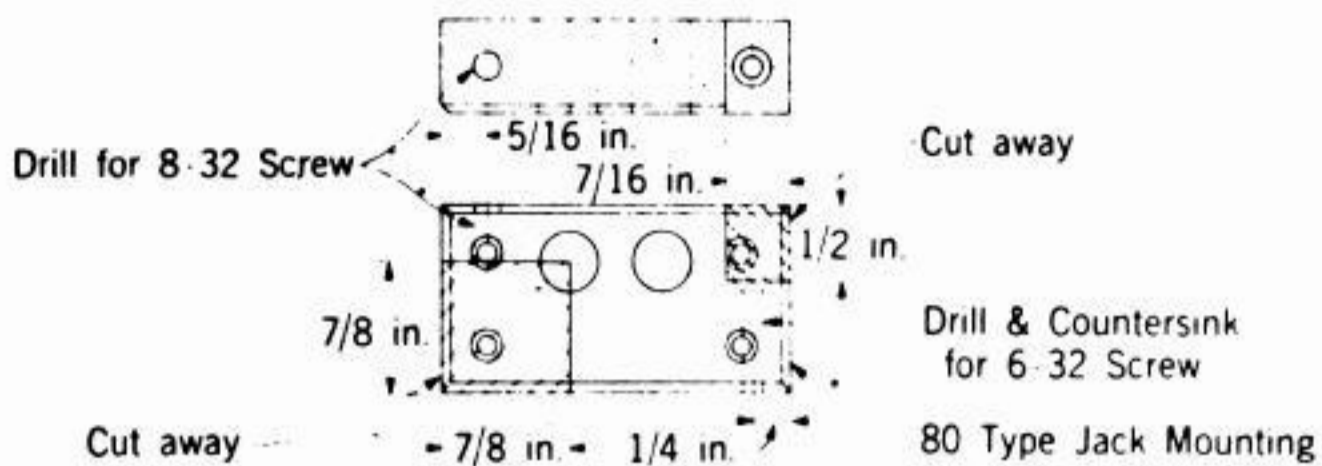

FIG. 1
2.03 The modifications required to provide the remote control feature to a portable No. 14 transmitter-distributor are shown in Figs. 1, 2 and 3 which are reproduced from American Telephone and Telegraph Company Long Lines Department Drawing S-8126-143 and consist of the addition of the following items to the TP 77598 mounting plate.
- 1 - No. 80 type jack mounting modified in accordance with Figure 1.